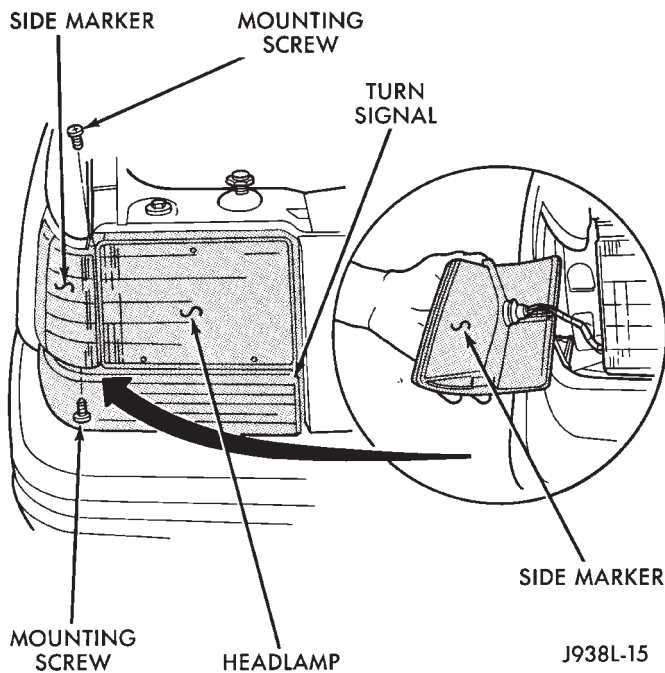

Fig. 6 Parking Lamp Removal
- (1) Open hood.
- (2) Remove two screws which hold the parking lamp in position (Fig. 6).
- (3) Disengage lamp and grasp and pull bulb (194 NA) to remove.